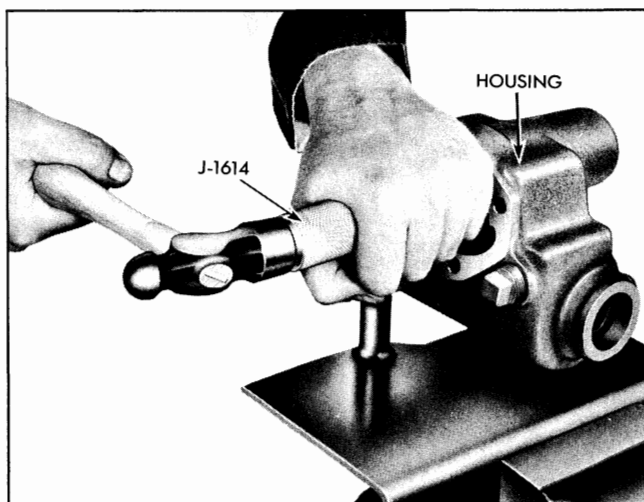

Fig. 9-36 Removing Pitman Shaft Bushing
2. Drive out bushing with tool J-1614 (Fig. 9-36).